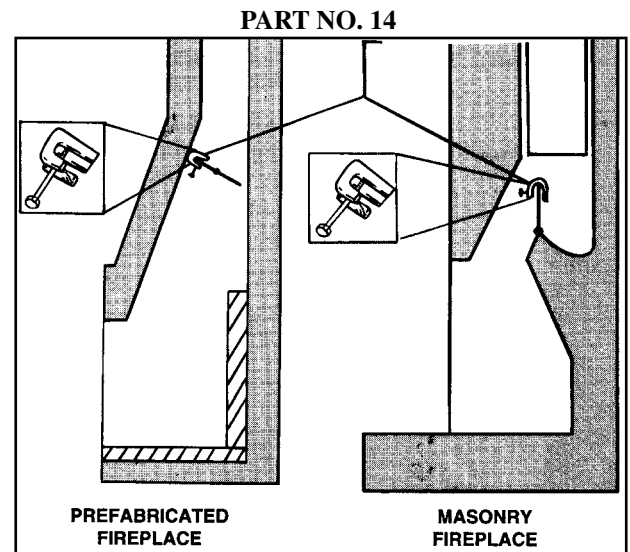

Figure 2. Damper stop clamp
- B. Open fireplace damper fully and install Damper Stop Clamp with set screw (Part #14). This clamp is designed to allow any pilot combustion by-products to vent (See Figure 2.) Should the Damper Stop Clamp supplied not fit, a permanent damper stop clamp must be installed that will keep the damper open at a distance of not less than 1 1/2". Damper must be in full open position anytime this unit is in operation.